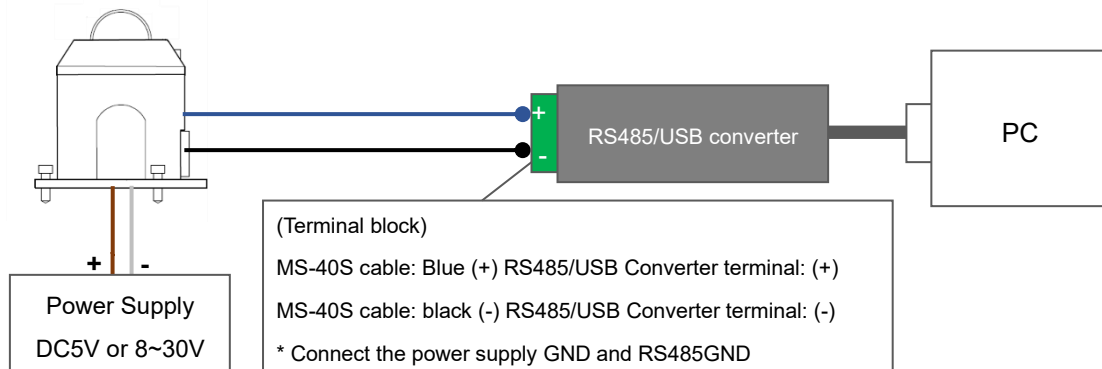

Figure A3-1. Hardware preparation
- 3) Connect the power lines of the signal cable to the power supply (DC5V or 8 to 30V) and turn on the power supply. (Refer to Figure A3-1.)